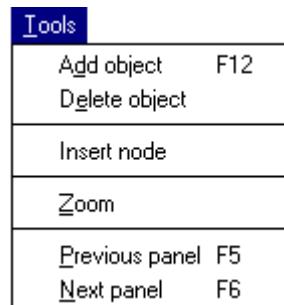
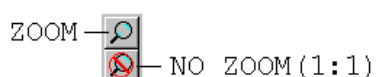

Figure 24 : TOOLS MENU
Figure 27 : ZOOM TOOLBAR
A first click on the *Zoom* button (Figure 27) or on *Zoom* on the *Tools* menu (Figure 24) changes the cursor in  and allows you to zoom in the section view by simple click on it.
A second click on the *Zoom* button (Figure 27) or on *Zoom* on the *Tools* menu (Figure 24) changes back the cursor in  and allows you to work on your zoomed section view.
- click on the *No Zoom (1:1)* button (Figure 27) to bring back the view to the initial size.